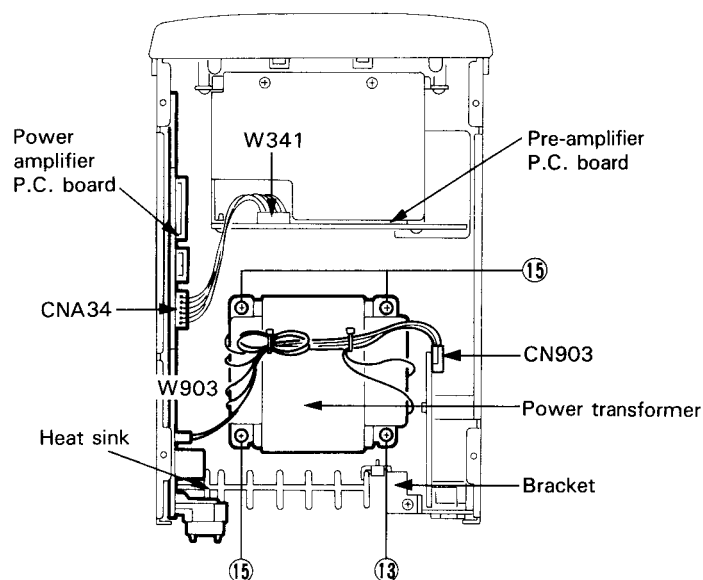

Fig. 7-14
■ Method of removing the power amplifier P.C. board (Refer to Fig. 7-14)
7. Remove the one screw (13) retaining the heat sink bracket on the power amplifier P.C. board (Refer to Fig. 7-14).
8. Remove the two wire treating clamps outgoing from W903 on the power transformer and power amplifier P.C. board (Refer to Fig. 7-14).
9. From the connector CN903 on the power supply P.C. board, remove the #4 PIN connector outgoing from W903 on the power amplifier P.C. board (Refer to Fig. 7-14).
■ **Method of removing the power transformer and power supply P.C. board (Refer to Figs. 7-14 and 7-15)**
2. Remove the four screws (15) retaining the power transformer (Refer to Fig. 7-14).